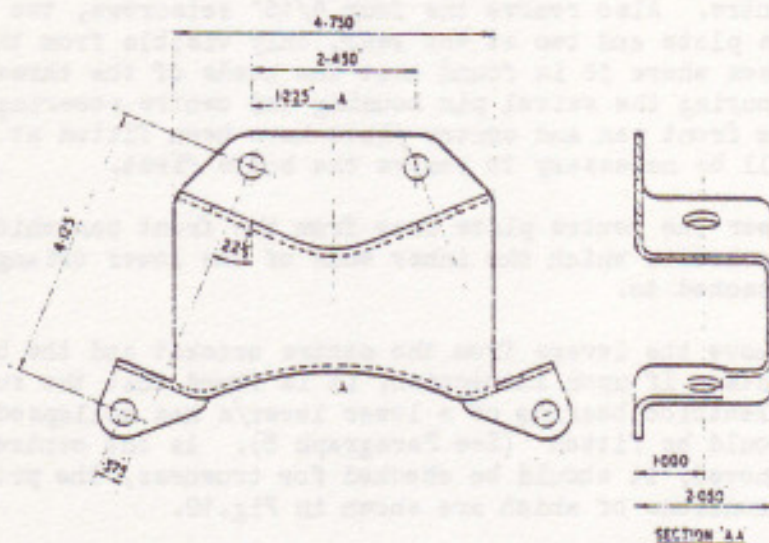

FIG. 10. CENTRE BRACKET - LOWER TRIANGLE LEVERS.
- (vii) Remove the levers from the centre bracket and the bracket from the plate. If upon inspection, it is found that the rubber of a Silentbloc bearing of a lower lever/s has collapsed, a new bearing should be fitted (See Paragraph 8). As the centre bracket has been removed, it should be checked for trueness, the principal dimensions of which are shown in Fig.10.